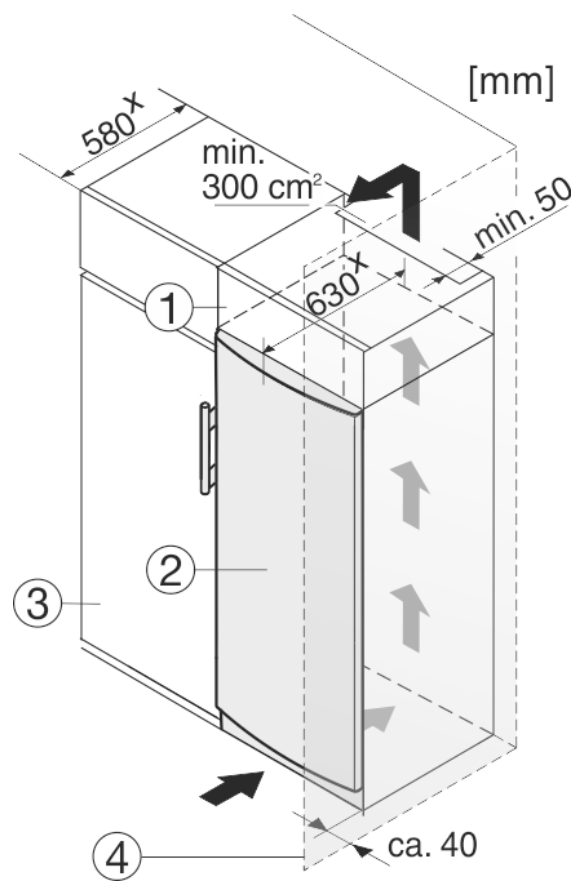

Fig. 9
The appliance can be built into kitchen units. A top cupboard *Fig. 9 (2)* can be added above the appliance in order to bring the appliance *Fig. 9 (1)* up to the height of the fitted kitchen units.
When installing with kitchen units (max. depth 580 mm), the appliance can be positioned directly next to the kitchen cabinet *Fig. 9 (3)*. The appliance will project by 34 mm \* at the sides and 50 mm \* in the centre of the appliance in relation to the kitchen cabinet front.
If the appliance is installed with the hinges next to a wall *Fig. 9 (4)*, the distance between appliance and wall has to be at least 40 mm. This corresponds to the projection of the handle when the door is open.